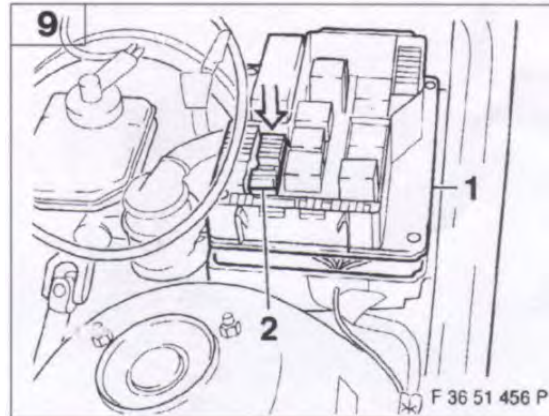

Figure 9 – Removing fuse cartridge (Item 2) from Fuse box Cover (Item 1)
- 5.9.2 To get more room, I removed the relays and fuse cartridges from the fuse box top (Figure 9). The cartridges have tabs on each end that are only accessed from underneath. To remove you press-in on the tabs and simultaneously push down on the relay/cartridge from above. I didn't have luck with a flathead screwdriver. I reached underneath with my fingers. It's not easy and takes some work. I pressed down on one side and hinged the cartridge down, but I had to remove the fuse on the end of that side so it wouldn't interfere.